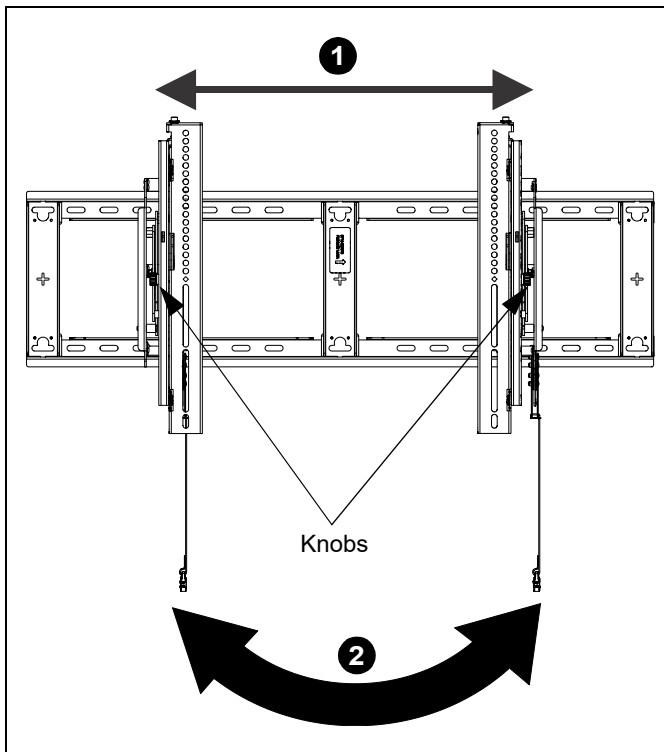

Figure 11
1. The wall brackets may be adjusted side to side at the point of attachment. (See Figure 11)
2. The location of the left and right interface brackets (S and T) may be switched, with the knobs on the interface brackets (S and T) facing the inside of the mount. (See Figure 11)